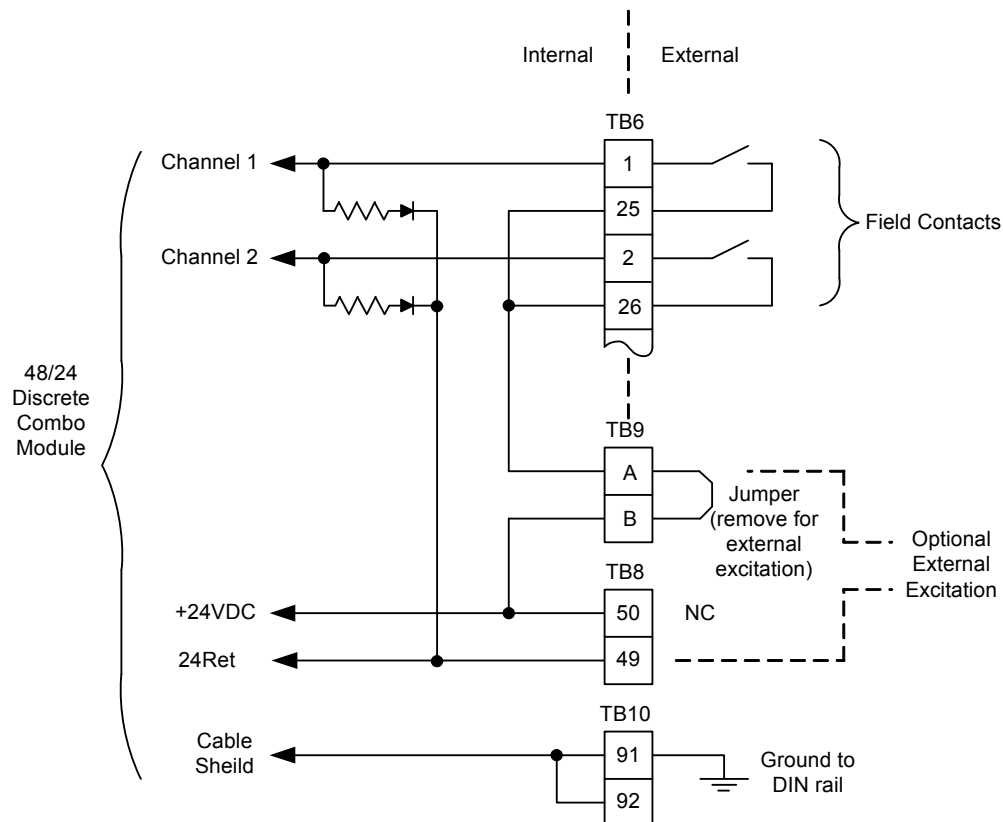

Figure 4-21. Discrete Input Interface Wiring to a 24/12 Discrete FTM
Each 24/12 Discrete FTM accepts 24 contact inputs. The 24/12 Discrete FTM may supply contact-wetting voltage. Optionally, an external 18–32 Vdc power source can be used to source the circuit wetting voltage. If the 24 Vdc internal power source is used for contact wetting, a jumper is required between FTM terminals on TB9. If an external power source is used for contact wetting, the external source's common must be connected to the FTM's discrete input common, terminal 49 (see Figure 4-21).
- If the internal 24 Vdc is used, a jumper must be added to tie the internal 24 Vdc to the bussed power terminal blocks (see Figure 4-21).
- If an external 24 Vdc is used, the common for the external 24 Vdc must be tied to the discrete input common (see Figure 4-21). Power for contacts must be supplied by the control's power supplies, or the external power supply outputs must be rated to Class II at 30 Vdc or less and outputs must be fused with appropriately sized fuses (a maximum current rating of $100/V$, where V is the supply's rated voltage, or 5 A, whichever is less).